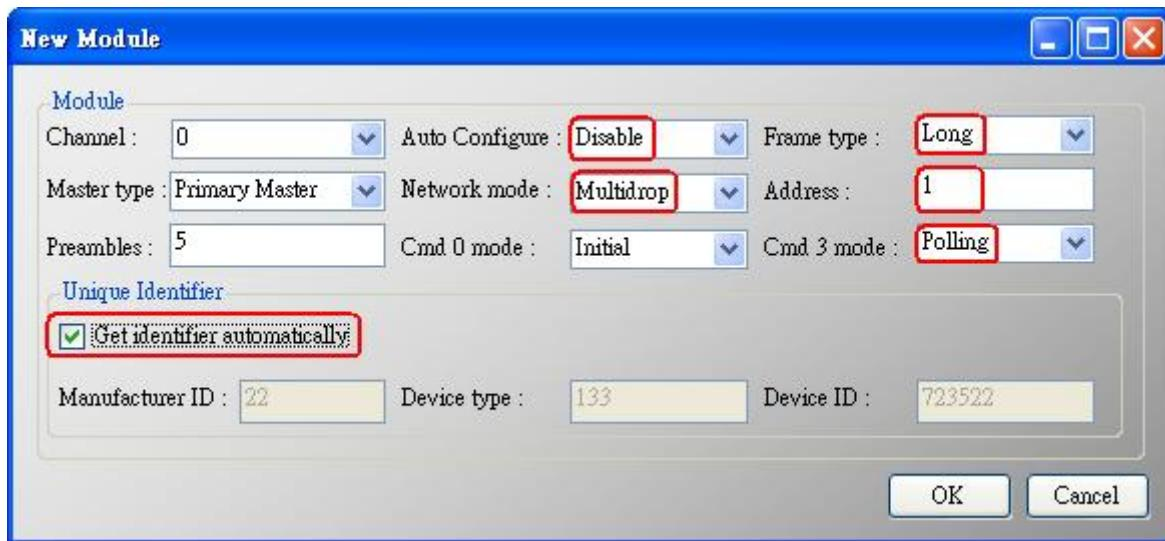

Figure 1-6 Add new HART device setting
- (1) Click “Auto Configure” option to be Disable like Figure 1-6.